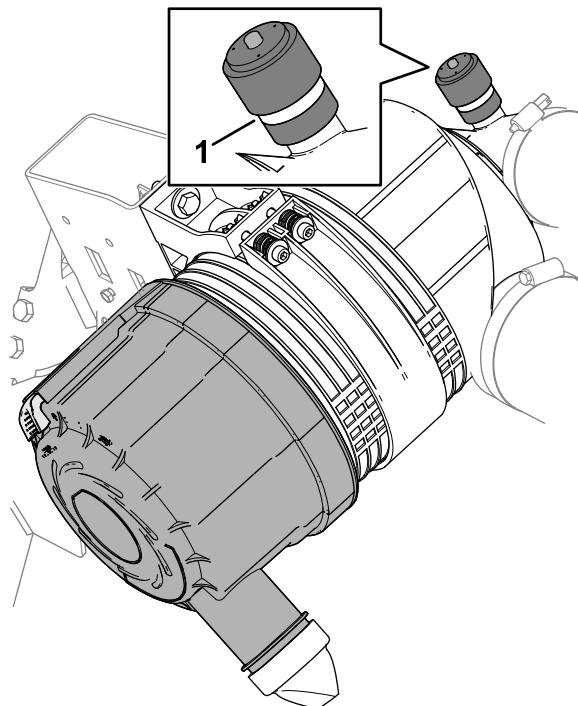

Figure 106
3. Check the service indicator at the end of the air filter housing (Figure 106).